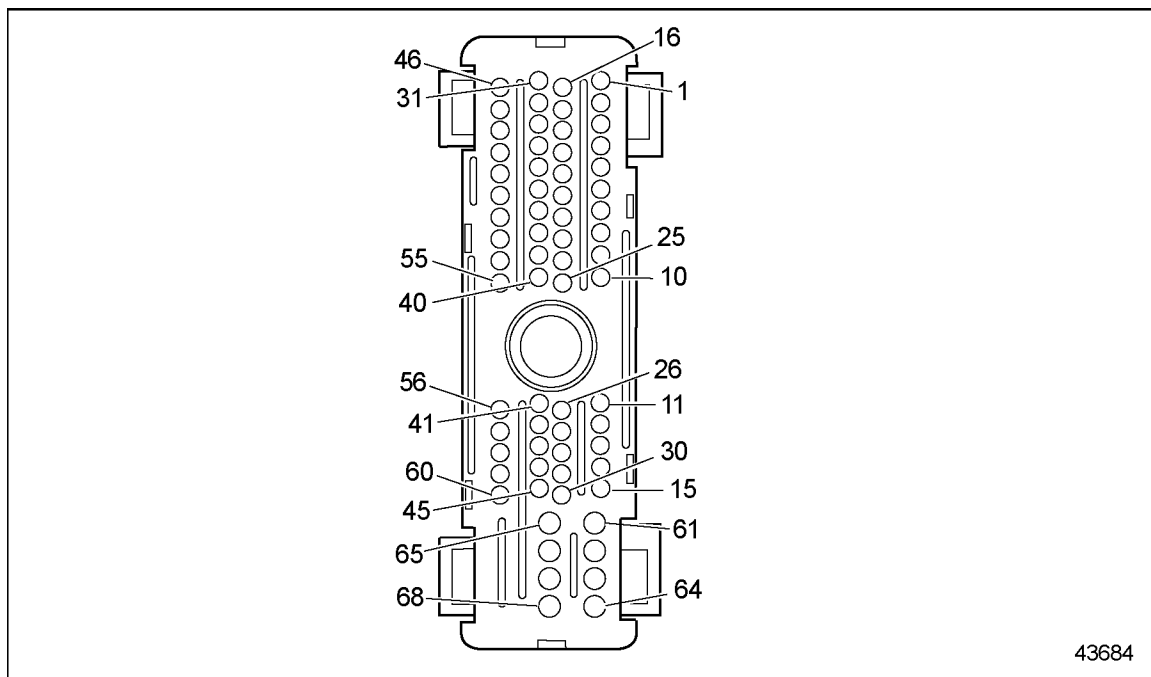

Figure 41-4 ECM/ECU Vehicle Harness Connector
2. Disconnect the Vehicle Interface Harness connector at the ECM/ECU. See Figure 41-4.